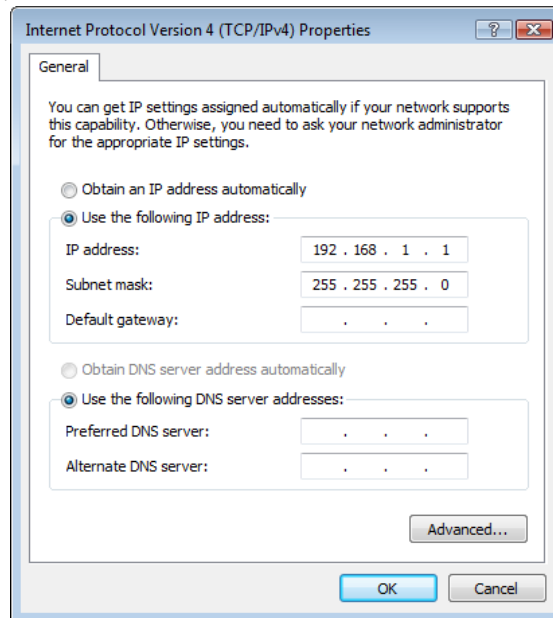

Fig. 6: IP Address Menu
6. When the **Internet Protocol (TCP/IP) Properties** dialog box appears, select **Use the following IP address** (Figure 6).